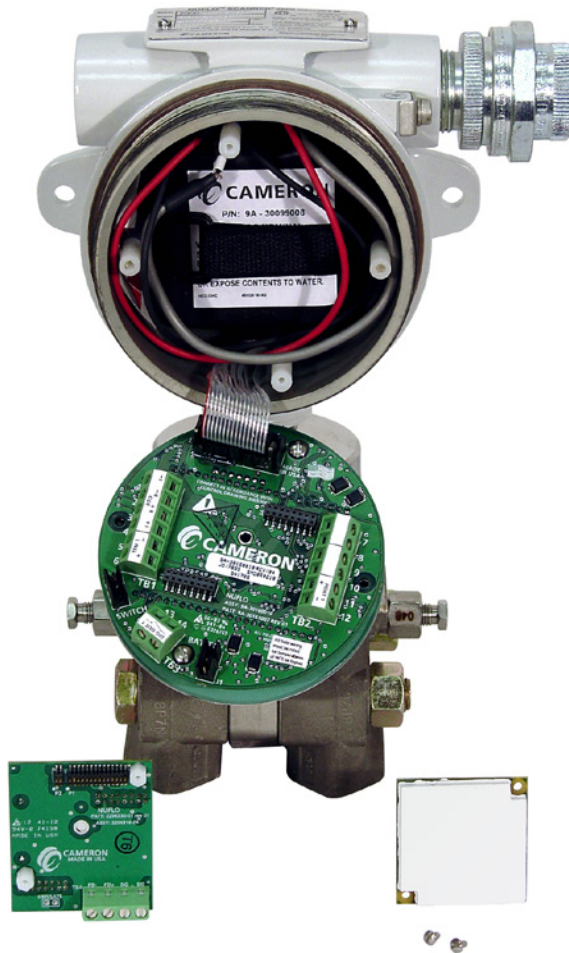

Figure C.11—Removal of the fieldbus interface board
- The interface board is firmly connected to the main board with a plastic standoff. Using small pliers, squeeze the two halves of the standoff together while applying firm pressure to separate the interface board from the main board. Proceed with care to avoid bending the pins on the interface board. With the fieldbus module and the fieldbus interface removed, the main board will be in full view (Figure C.11, page C-20).